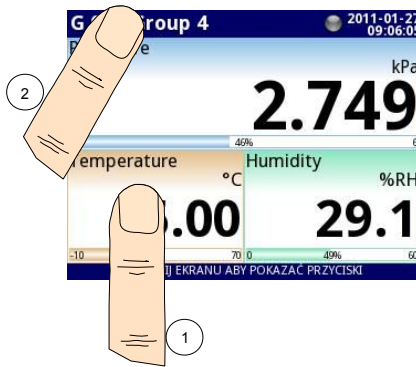

Fig. 6.7. Methods for direct entry to **Logical channel configuration (1)** and **Group configuration (2)**
To enter the configuration menu of a particular **Logical channel** directly, press and hold the screen over the channel data panel for 3-4 seconds (see option (1) in **Fig. 6.7** entering configuration of the **logical channel** named 'Temperature'). Similarly, to go directly to the configuration of a displayed **Group**, touch and hold the **group number** or **group name** in the upper **Information bar** for a few seconds (see option (2) in **Fig. 6.7** entering configuration of the **Group** named 'Group 4'). In both cases if a password is set (see **Chapter 7.17. ACCESS OPTIONS**) then the user has to enter the password before entering the configuration.